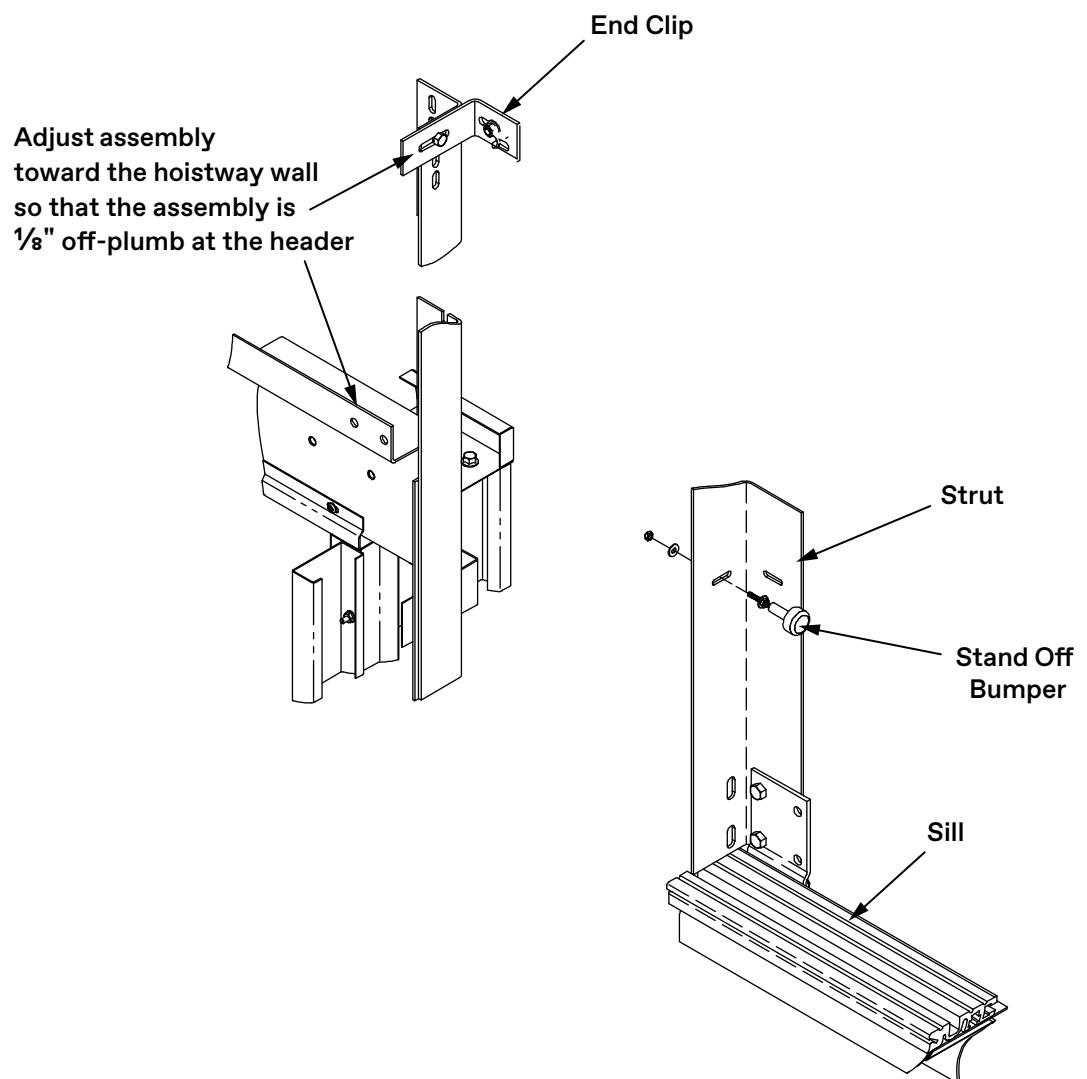

Figure 43 - Adjust Frame Assembly
1. At the end clips, adjust the strut/header/frame assembly toward the hoistway wall so that the assembly is $\frac{1}{8}$ " off-plumb at the header. This action allows the clutch to clear the fascia. See Figure 43.